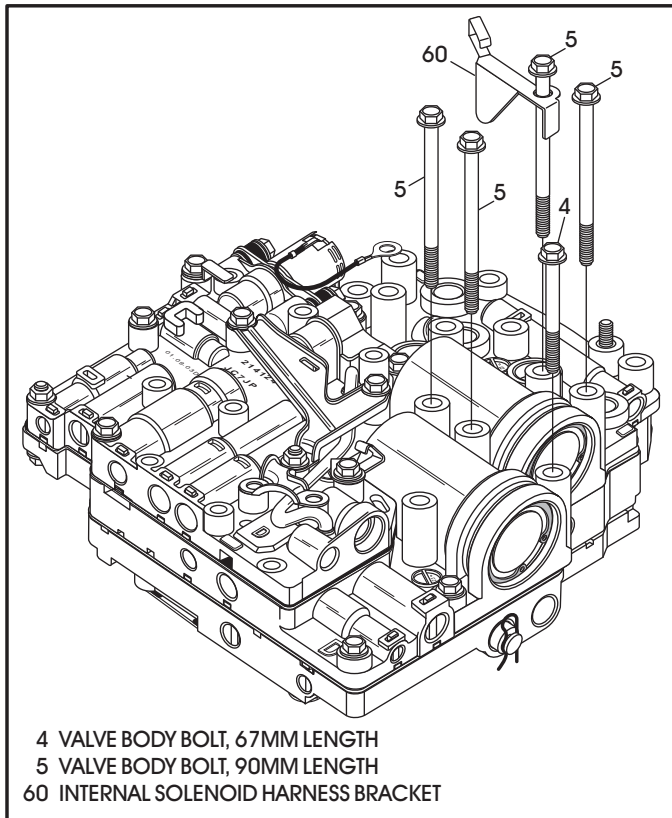

Figure 109
52. Install 67mm (4) bolt in the location shown in Figure 109, and hand tighten only.
53. Install four 90mm (5) bolts in locations shown in Figure 109, and hand tighten only. Notice that one has a wire harness bracket (60).